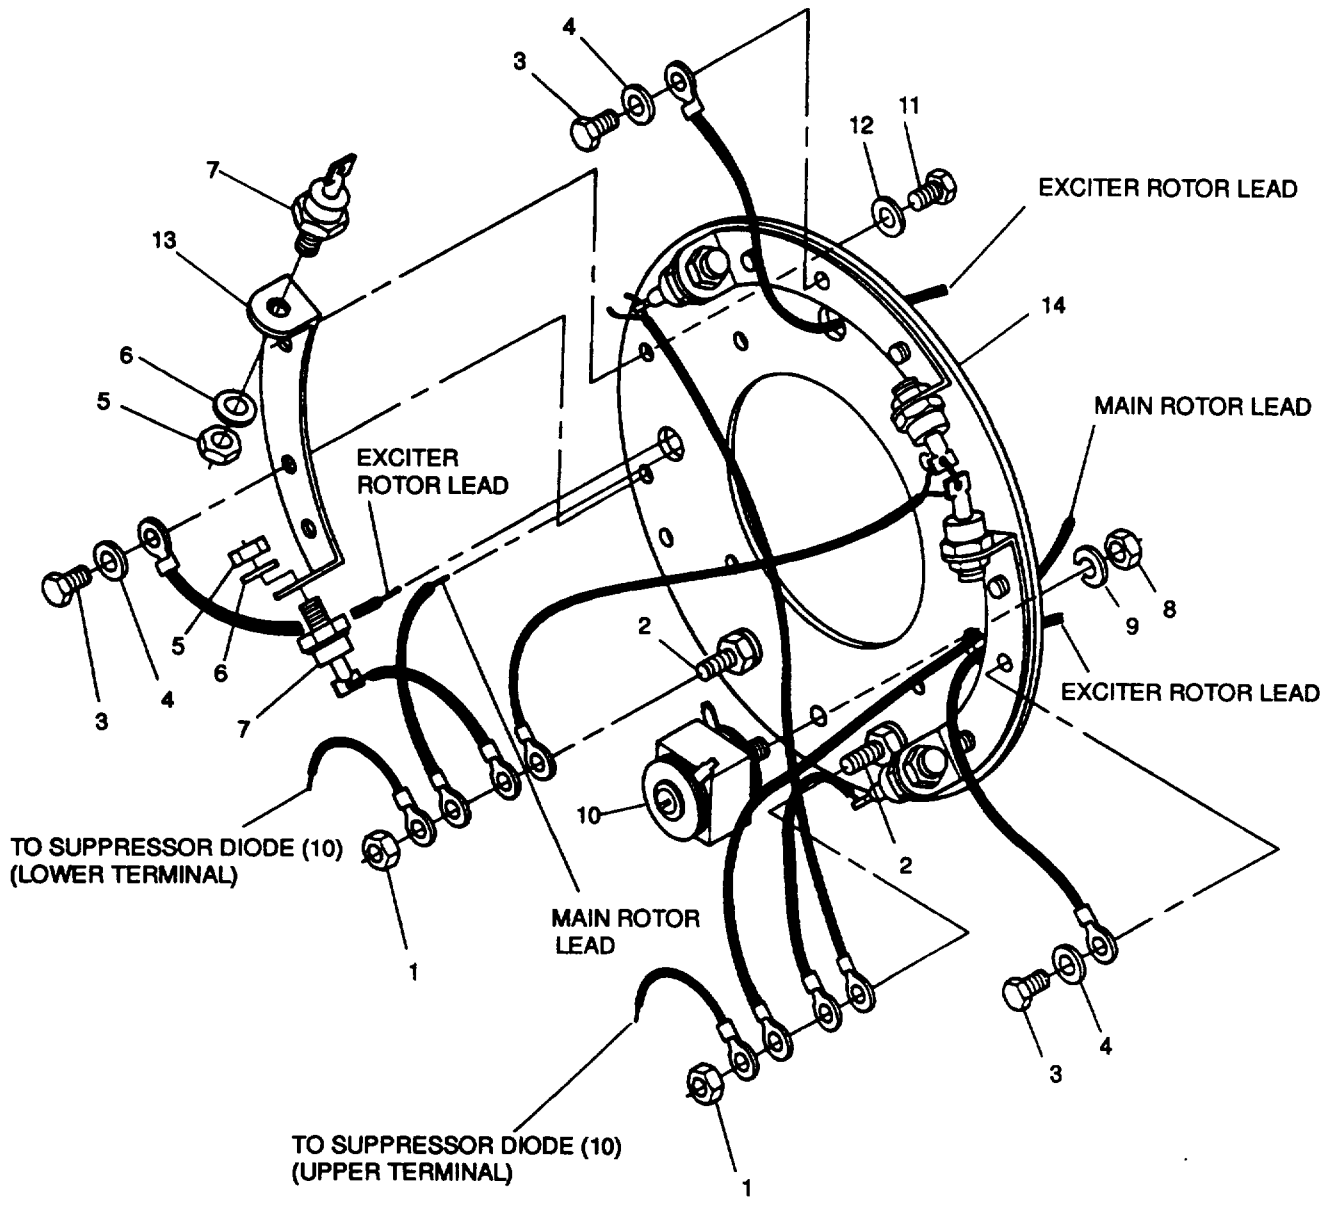
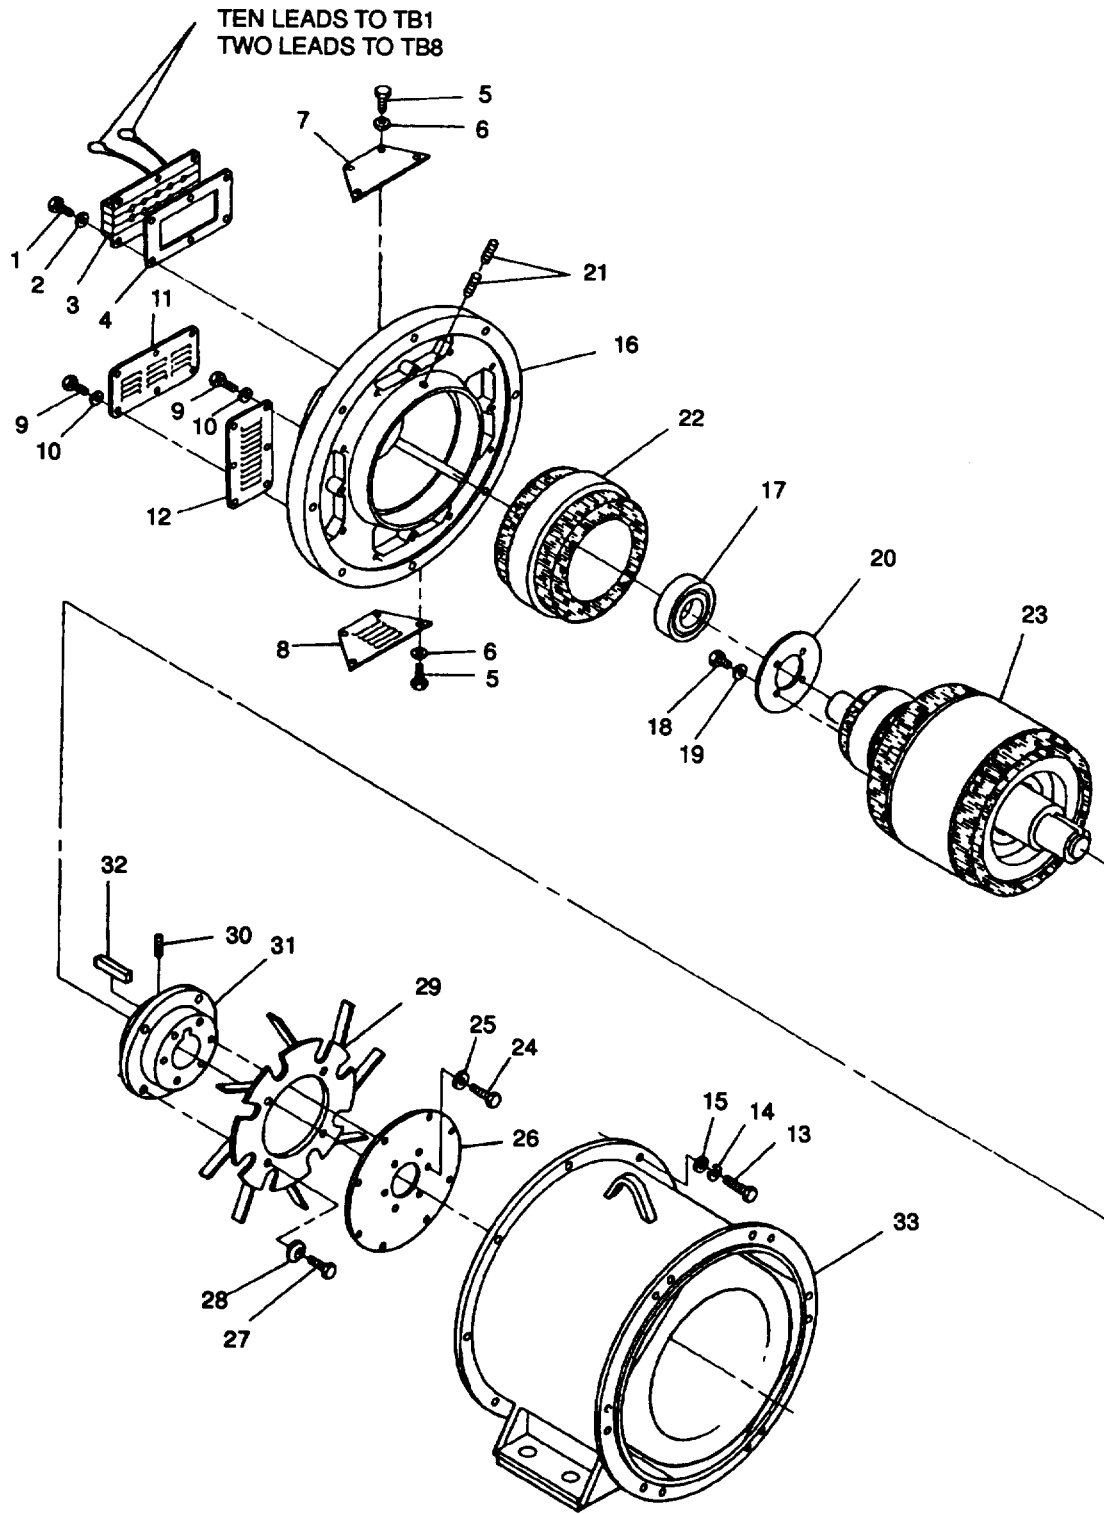

FIGURE 4-16. Rectifier Assembly
FIGURE 4-17. Generator Assembly
- e. Remove nuts (1, FIGURE 4-16) from rotating rectifier terminal bolts (2).
- g. Tag exciter rotor leads and remove bolts (3), washers (4), and exciter rotor leads from rectifier mounting plate assemblies.
- h. Set multimeter for ohms and connect positive lead to one side and negative lead to other side of each diode (7). Record multimeter reading for each diode.
If diode (s) (7) are found to be defective, inspect suppressor diode (10, Figure 4-16) for discoloration or signs of burning. Replace suppressor diode if these conditions exist (Refer to paragraph 4-19.1, Rotating Rectifier Removal).
- k.. Install diode and main rotor leads to rotating rectifier terminal bolts (2) with nuts (1). Remove tags.
- l. Install exciter rotor leads to rectifier mounting plate assemblies with washers (4) and bolts (3). Remove tags.
- e. Unsolder electrical lead from diode (7, FIGURE 4-16) being removed.
- f. Remove nut (5), lockwasher (6), and diode (7) from rotating rectifier assembly through access hole in end bell.
- a. Run bead of thermal-electrical contact compound (Item 9, Appendix C) around base of diode (7, FIGURE 4-16) prior to installing. Do not coat threads.
- b. Insert diode (7) through generator end bell access hole, and install on rotating rectifier plate with lockwasher (6) and nut (5). Torque nut (5) 28 to 30 in-lbs. (3.16 to 3.38 Nm).
- c. Using solder (Item 19, Appendix C) and soldering iron, solder electrical lead to diode (7).
- f. Loosen damp assembly (3, FIGURE 4-17) to allow slippage of generator leads.
- g. Remove bolts (1), lockwashers (2), damp assembly (3), and gasket (4) from end bell (16).
- h. Remove bolts (5), lockwashers (6), and cover plates (7) and (8) from end bell (16).
- i. Remove bolts (9), lockwashers (10), and air intake screens (11) and (12) from end bell (16).
- j. Remove bolts (13), lockwashers (14), and washers (15) securing end bell (16) to generator assembly.
- k. Remove end bell (16) from generator assembly with exciter stator (22) attached.
- I. Using bearing puller, remove bearing (17) from main rotor assembly (23) shaft and discard bearing.
- a. Install bearing (17, FIGURE 4-17) on main rotor assembly (23) shaft. Ensure that bearing is seated squarely against shaft shoulder by applying pressure to inner race only.
- b. Position bearing (17) in end bell (16).
- e. Remove bolts (3, FIGURE 4-16) and lockwashers (4) securing exciter rotor leads (3 places) to rotating rectifier. Tag and remove exciter rotor leads.
- f. Remove nuts (1) from terminal bolts (2), tag and remove main rotor leads and rotating rectifier diode leads.
- g. Remove bolts (18, FIGURE 4-17), lockwashers (19) and rotating rectifier (20) from rotor assembly (23).
- h. Remove nut (8, FIGURE 4-16), lockwasher (9), and suppressor diode (10) from insulating plate (14).
- i. If necessary, remove bolts (11), lockwashers (12), and diode mounting plates (13) from insulating plate (14).
- a. If removed, install diode mounting plates (13, FIGURE 4-16) on insulating plate (14) with bolts (11) and lockwashers (12).
- b. Install suppressor diode (10) on insulating plate (14) with nut (8) and lockwasher (9).
- c. Install rotating rectifier (20, FIGURE 4-17) on rotor assembly (23) with bolts (18) and lockwashers (19).
- d. Connect two main rotor leads and rotating rectifier diode leads to terminal bolts (2, FIGURE 4-16) with nuts (1).
- e. Connect three exciter rotor leads to rotating rectifier with bolts (3) and lockwashers (4).